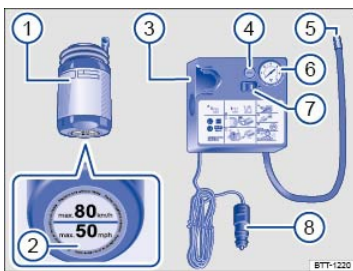

Fig. 198 Basic diagram: Contents of the tire mobility set.
The tire mobility set may be stored in one of several places in the luggage compartment (for example, in the side storage compartment or under the luggage compartment floor). It contains the following ⇒ Fig. 198:
- Vigorously shake the tire inflation cylinder ⇒ Fig. 198① a few times back and forth.
- Tightly screw the inflation hose on the air compressor ⇒ Fig. 198⑤ to the valve on the top of the sealant cylinder.
- Tightly screw the filling hose from the tire inflation cylinder ⇒ Fig. 198① to the tire valve.
- Hold the cylinder with the bottom pointing up and insert the top of the cylinder into the notch in the air compressor ⇒ Fig. 198③.
- Insert the 12 Volt plug ⇒ Fig. 198⑧ into one of the vehicle's 12 Volt sockets ⇒ Power outlets.
- Switch the air compressor on using the ON/OFF switch ⇒ Fig. 198⑦.
Connect the inflation hose ⇒ Fig. 198 from the air compressor to the tire valve and read the tire pressure on the tire pressure gauge .